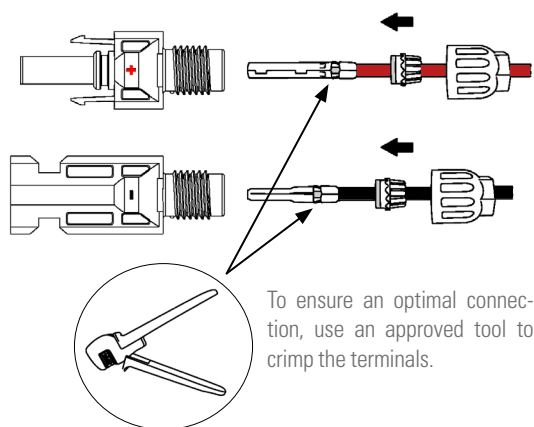

Fig. 39. Crimping the cable.
- d. Insert the DC cable through the DC connector nut on the metal terminal and press the terminal with professional crimping pliers (pull the cable to check that the terminal is well connected to the cable), as shown in Fig. 39.